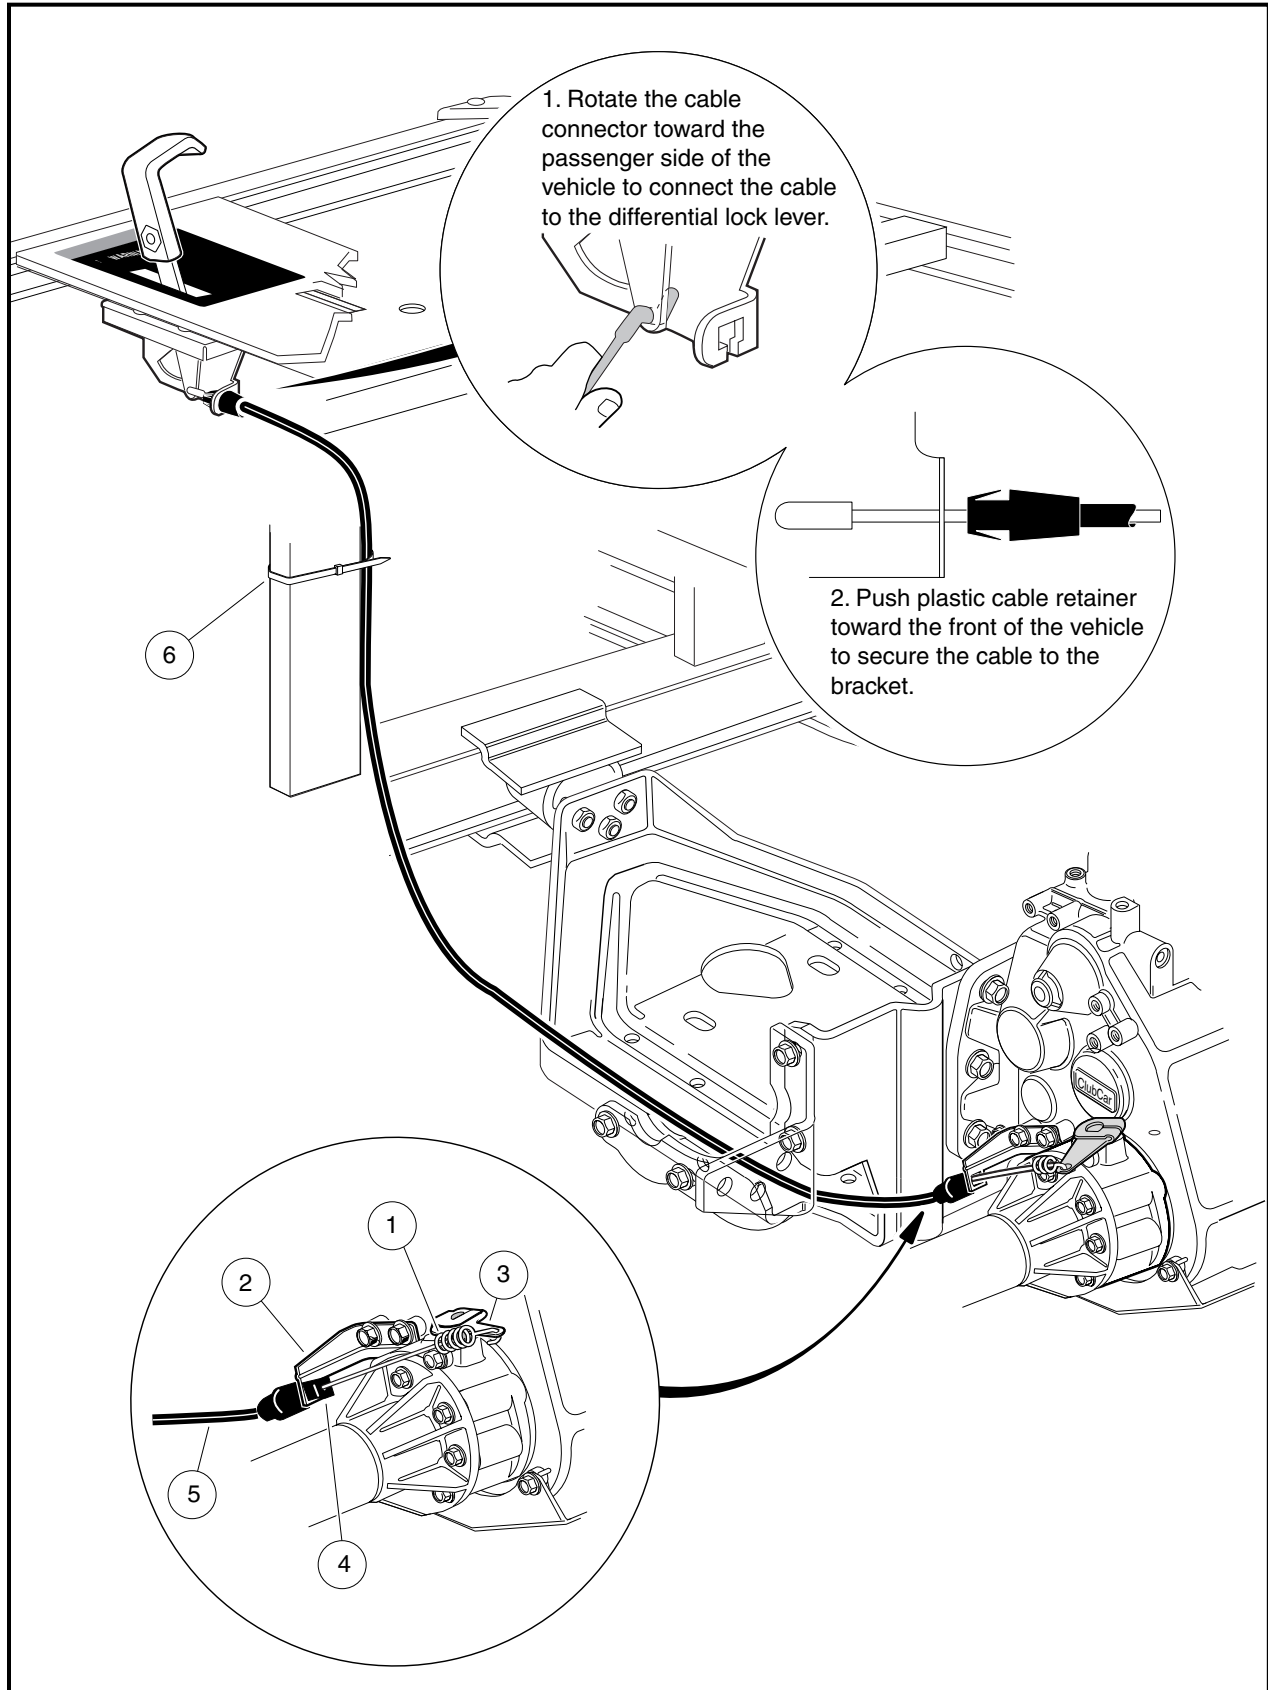

Figure 16-63 Differential Lock Cable Routing
- 33.4. Push the cable sheath toward the front of the vehicle to secure the cable to the bracket (**Figure 16-63, Page 16-27**).
2. Remove wire tie (6) securing the cable to the vertical support (**Figure 16-63, Page 16-27**).
6. Unhook the cable spring (1) from the differential lock arm (3) (**Figure 16-63, Page 16-27**).
7. Use a pair of pliers and apply pressure to the locking tabs of the cable end (4) where it attaches to the cable mounting bracket (2) at the transaxle.
8. Pull cable (5) toward the front of the vehicle to remove the cable from the bracket (2) and vehicle.
1. Route the cable through the engine mounting plate as illustrated (**Figure 16-63, Page 16-27**).
2. Route the cable spring (1) through the cable bracket (2).
3. Connect the differential lock cable spring end (1) to the differential lock arm (3) on the differential lock housing.
4. Push the cable (5) toward the rear of the vehicle in order to secure the cable to the bracket (2).
- 5.5. Secure the cable to the vertical support as shown with a wire tie (6) (**Figure 16-63, Page 16-27**).